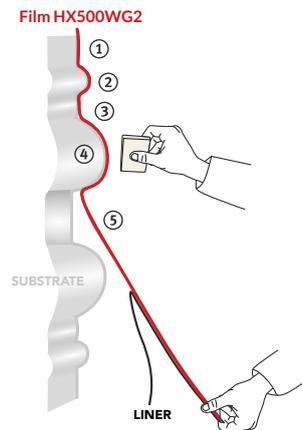

Figure 06
- › Remove the liner gradually by tensioning it towards the lower end. (FIG. 06)
- › Apply the hollow ①, then the peak ② and afterwards the hollow ③.
- › Go up onto the next undulation ④, then keep going ⑤ until completion of the application.